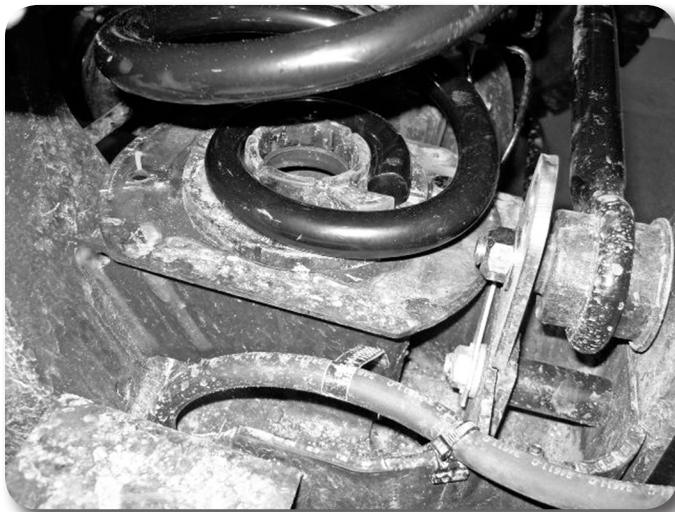

Figure 6
13. Reinstall factory coils with OEM isolators on the spacers, or install new coil springs with OEM isolators. Raise axle and ensure that the isolators are centered over the factory mounts. Orientate the coils so that the lower locating tab is at the rear of the vehicle. This will give maximum clearance to the trackbar hardware. Fig 6